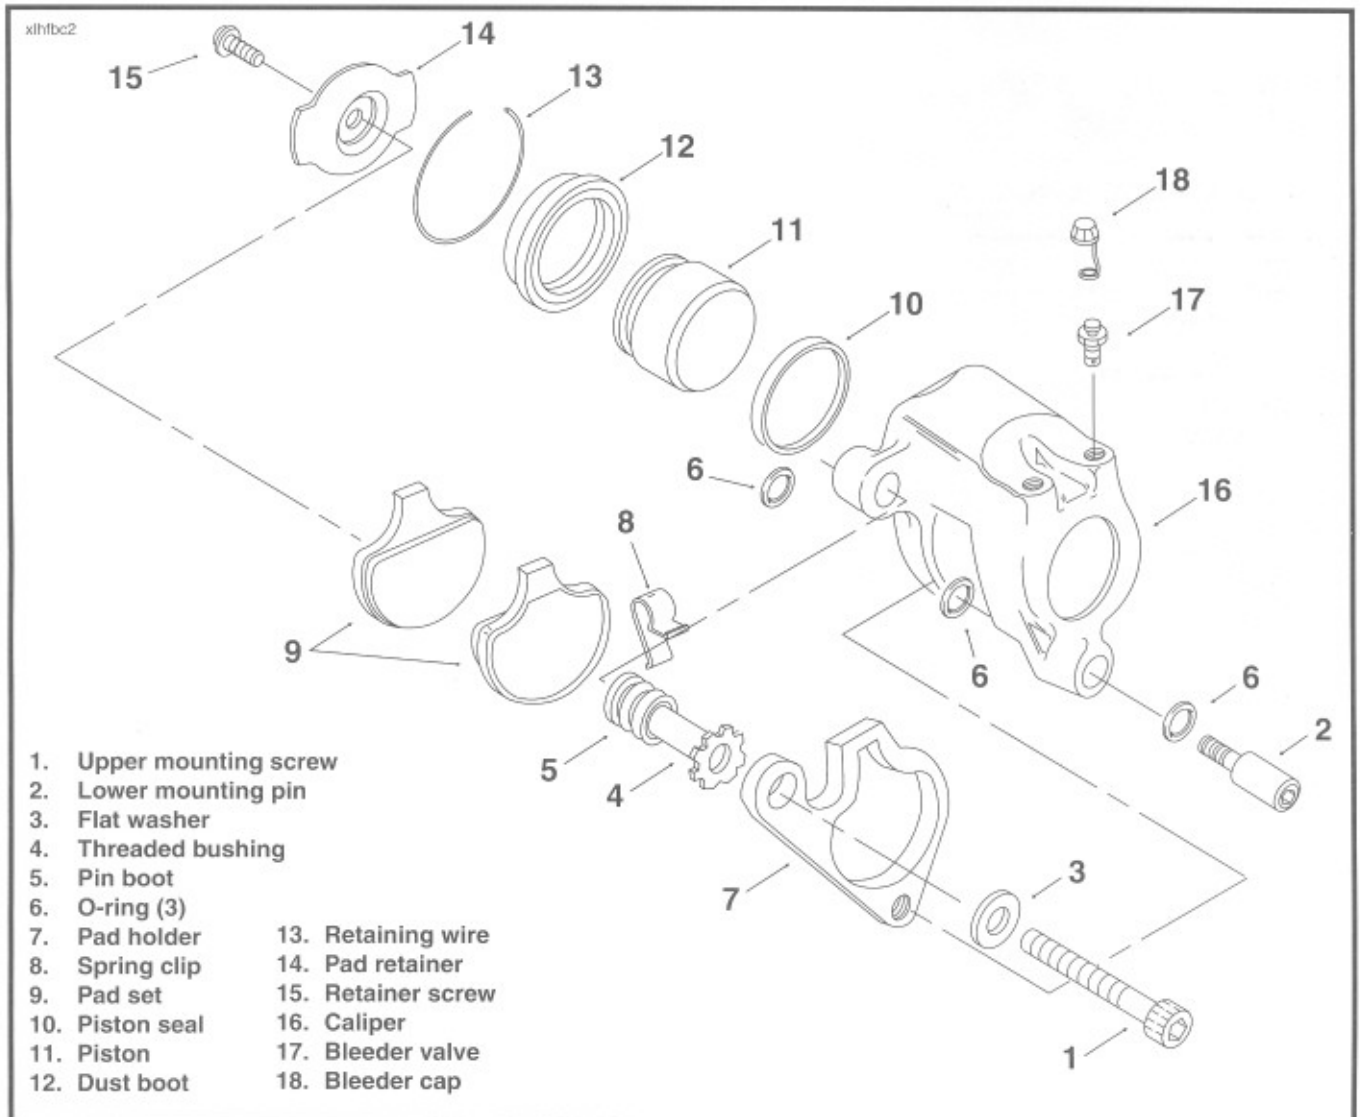
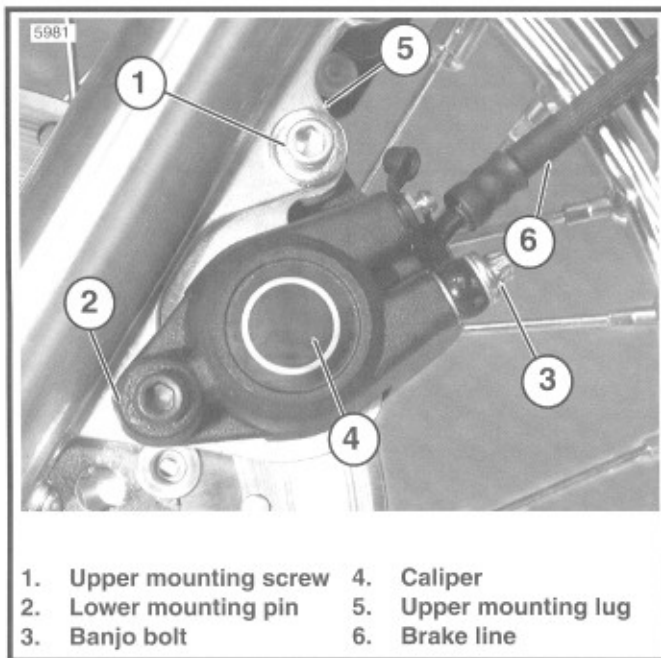

Figure 2-50. Front Brake Caliper
Figure 2-52. Front Brake Caliper Mounting
(Figure 2-50)
CLEANING, INSPECTION AND REPAIR (Figure 2-50)
1. See Figure 2-50. Install **new** seal (10) in groove of caliper piston bore (16). Install **new** O-ring (6) in groove of threaded bushing bore. Install **new** O-rings (6) in each groove of lower mounting pin bore. Apply DOW CORNING 44 GREASE (tube marked "PIN LUBE" in service parts kit) to interior cavity of pin boot (5). Insert flanged end of pin boot in groove of threaded bushing bore.
2. Install dust boot (12), with its concave side facing piston (11), over top of piston. Seat the inner lip of dust boot in groove at top of piston.
3. Apply light coat of NovaGard silicone grease (marked "PISTON LUBE" in service parts kit) to piston O.D., including chamfer. Apply a light coat to caliper piston bore (16) and I.D. of installed piston seal (10). Install piston (with dust boot) into caliper piston bore. Use a "C" clamp to press in piston, if necessary.
7. See Figure 2-50 and 2-51. Lay down pad holder (7) on a firm flat surface with upper mounting screw (threaded bushing) hole positioned at the upper right.
8. Hook lip on looped end of clip (8) under inside edge of pad holder at top. Holding pad holder down, raise clip to snap in place on pad holder. Pick up pad holder to verify that clip is firmly attached. Lay pad holder back down in the same orientation.
9. With black insulator backing facing pad holder, center outboard pad (9) within pad holder. In this position, tang of pad rests on clip loop while bottom of pad slightly enters opening of pad holder. Push down on tang until pad lies flat. Pick up pad holder to verify that pad is firmly attached. One lip on clip should be caught on pad holder, the other on tang of pad.
- See Figure 2-50. Insert the assembly (outboard pad, pad holder and spring clip) into place on caliper (16) with insulator side of pad against face of piston (11).
- See Figure 2-50. Apply light coat of DOW CORNING 44 GREASE (marked "PIN LUBE" in service parts kit) to O.D. of lower mounting pin (2).
- See Figure 2-52. Position caliper (4) so that brake disc is situated between friction pads and lower mounting hole in caliper is aligned with lower mounting lug on front fork.
- See Figure 2-50. Insert lower mounting pin (2) through caliper (16) and front fork lower mounting lug. Thread pin into tapped hole at lower end of pad holder (7). Tighten pin to 25-30 ft-lbs (34-41 Nm) torque.
- Install upper mounting screw (1) with spacer washer (3) through front fork upper mounting lug and pad holder (7). Thread the screw into threaded bushing (4). Tighten screw to 25-30 ft-lbs (34-41 Nm) torque.
- Install bleeder valve (17) and valve cap (18), if removed. Tighten valve to 80-100 **in-lbs** (9.0-11.3 Nm) torque.
- See Figure 2-52. Connect brake line (6) to caliper using **new** steel/rubber banjo washers. Tighten banjo fitting bolt (3) to 17-22 ft-lbs (23-30 Nm) torque.